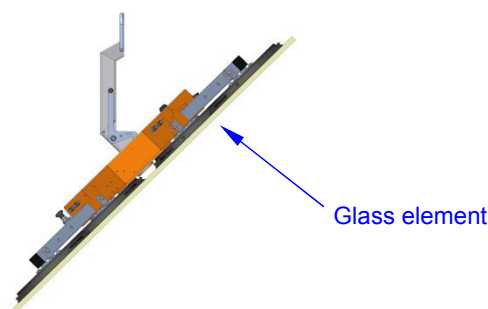

Fig. 14: OKTOPUS® GLASS-Jack GL-RN 800 during swivelling
- ⇒ Mount the guide roll completely (see fig. 14). For this use a roller pin M10, a washer and a lock nut enclosed in the scope of supply. Insert the roller pin from bottom-up.